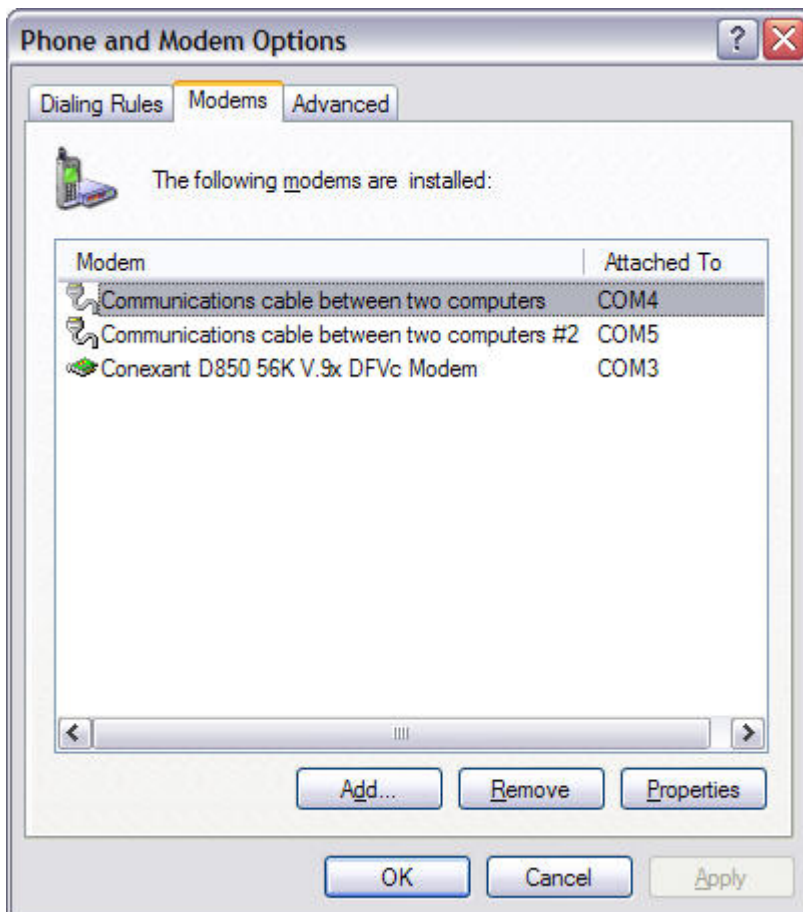

Figure 85: List of installed modem devices (Windows XP)
- d) The modem device should now have been added, and you will be returned to the modem list screen (*Figure 85*). Verify that the newly added modem device is now present.